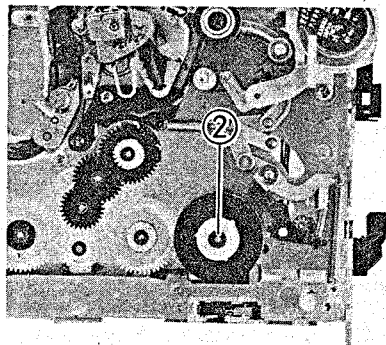

Fig. 2-99 Take-up Reel Disk Removal
Take-up Reel Disk Removal (Fig. 2-99)
2. Remove one (1) washer and pull out the take-up reel disk. (See Fig. 2-99)